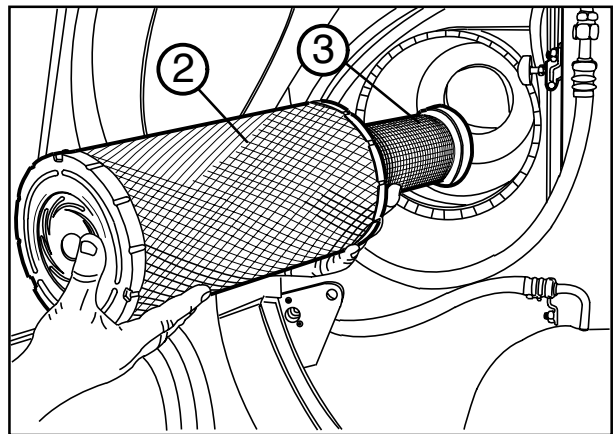

Fig. 115 - Removing the dry air filter.
Whenever the red filter blockage warning light on the instrument panel comes on, open the filter container cover (1 - Fig. 115), lift out the outer filter element (2) and clean it carefully with compressed air.
The inner backup filter element (3 - Fig. 115) should never be blown clean, but must be replaced after every 3 times that the outer element is cleaned.